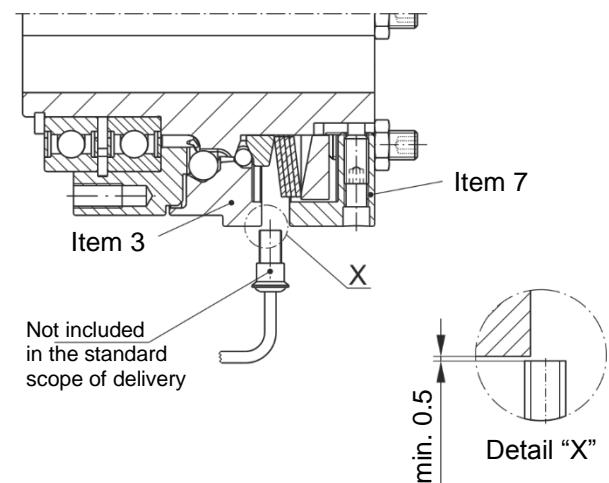

Fig. 21
Grinding, mechanically actuated limit switches are only permitted for application in areas where there is a danger of explosion if it can be proved that there is no danger of ignition caused by the grinding movement of the mechanical limit switch on the clutch. The contactless limit switch is to be mounted onto the switching edge of the clutch (Fig. 21) so that no signal changes are caused during normal operation on the limit switch by the usual clutch run-out errors.
Adjust the switch distances for the contactless Ex-limit switch acc. Fig. 21. The distance of the thrust washer (3) to the switching point can be adjusted using a hexagon head screw, wrench opening 7.